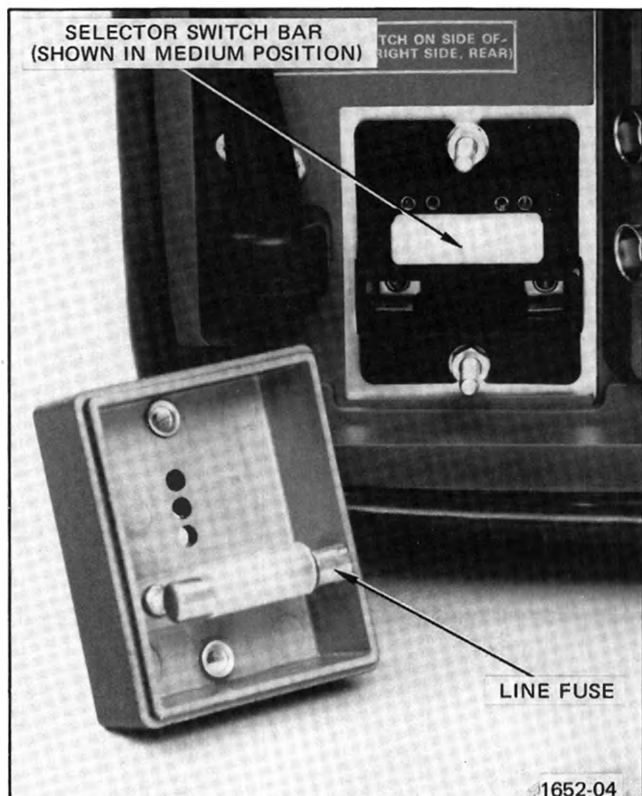

Fig. 2-1. Regulating range selector and line fuse.
3. Pull out the range selector switch bar (see Fig. 2-1). Select a range from Table 2-1 that is centered about the average line voltage. Slide the bar to the desired position and plug it in. Push the cover on and tighten the screws.
51. LINE FUSE HOLDER—Contains the line fuse and the regulating range selector. See Fig. 2-1 for change information.
52. REGULATING RANGE SELECTOR—Shown in Medium regulating range. See Fig. 2-1 for change information.